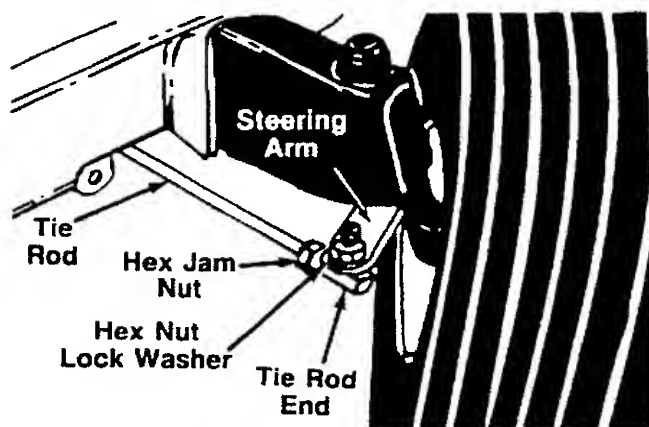

FIGURE 14.
1. Remove the hex nut and lock washer, and drop the tie rod end from the wheel bracket. See figure 14.